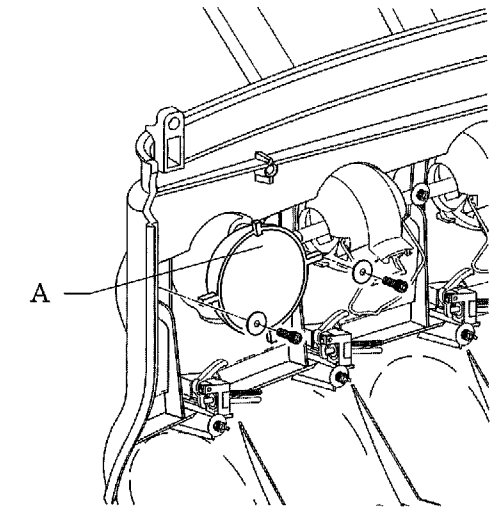

Figure 21. Removing the empty position cover. (A) position cover
1. Remove the screws and washers from either side of the empty position to remove the position cover (see Figure 21).